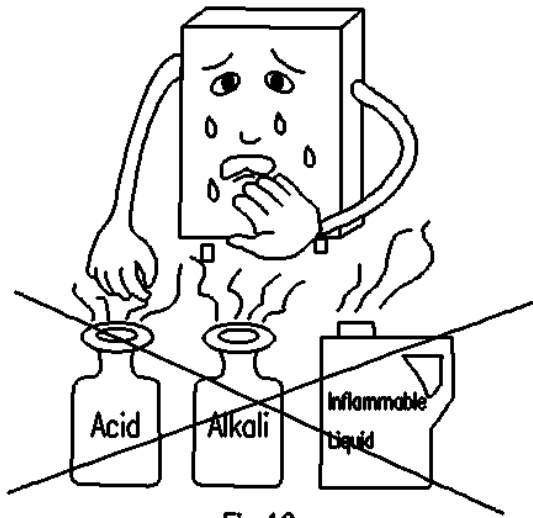
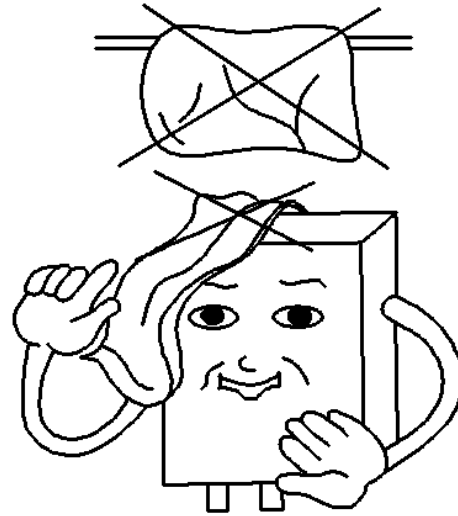

Fig.12
Fig.13
- Do not place any, especially inflammable materials under or near or over, or on top of the product (Fig. 12) (Fig.13), and do not block the air inlet.